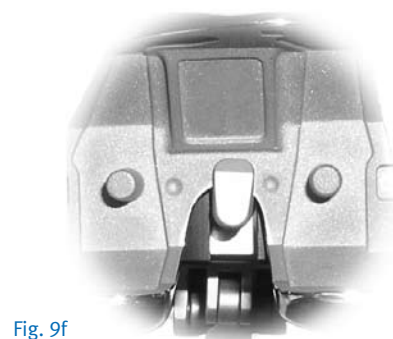

Fig. 9f
Position instrument hook under provisional (F) (Fig. 9f).